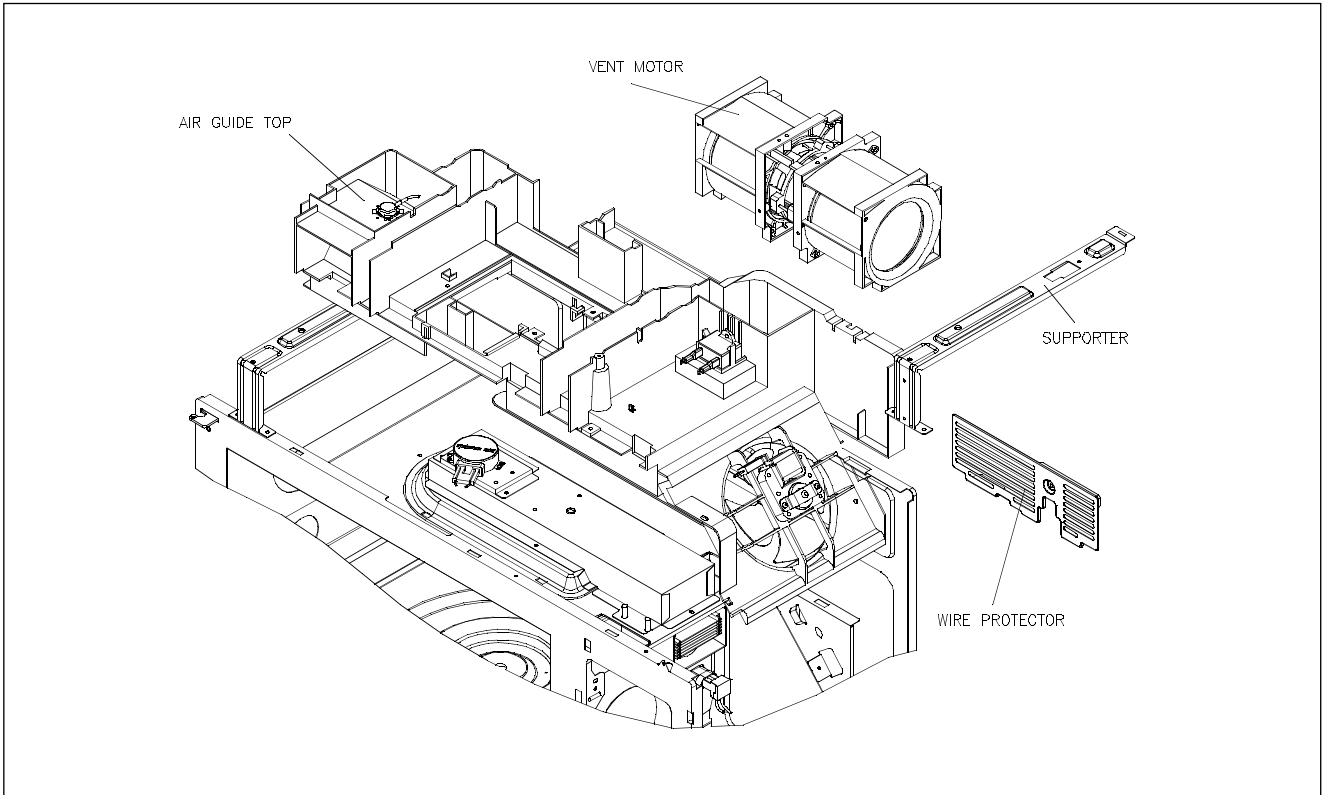

FIG. 13-1
6. Remove the vent motor and lift the air guide top. (See FIG. 13-1)